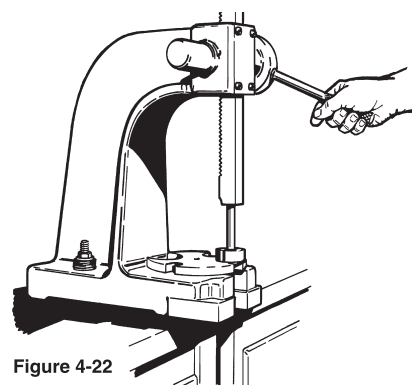

Figure 4-22
6. Using the arbor press, remove the two (2) Bearings (#24 & #24A) from the shaft. Refer to Figure 4-22. If the inner race is well supported during this operation, no damage will be done to the bearings.